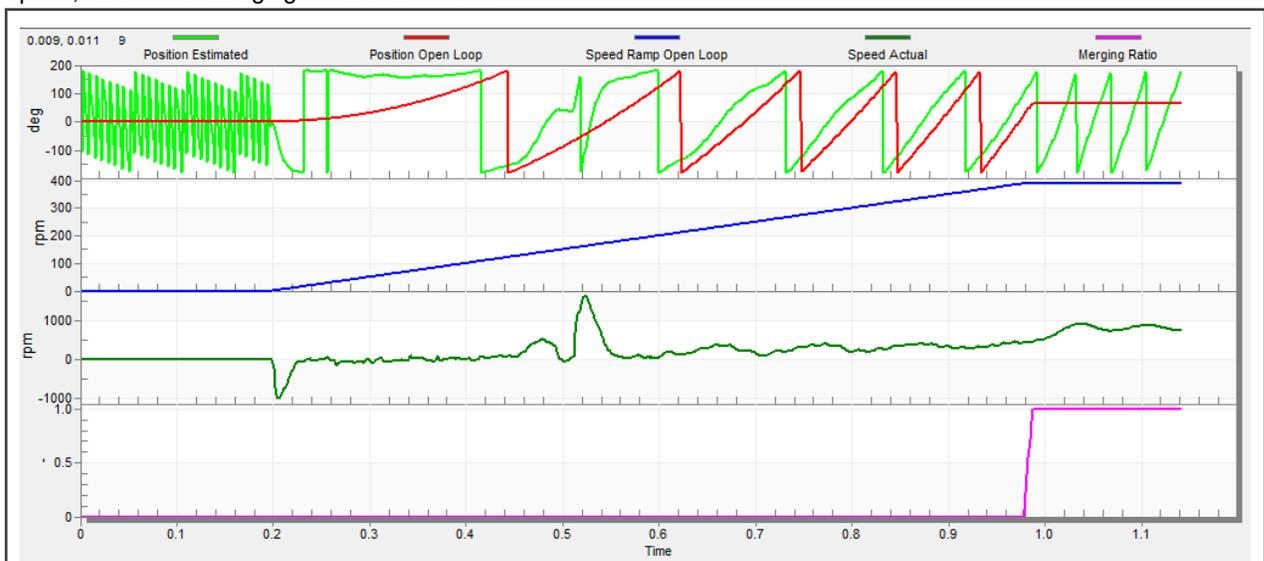

Figure 64. Motor startup
1. The start-up process can be tuned by a set of parameters located in the “Sensorless” tab. Two of them (ramp increment and current) are accessible in both tuning modes. The start-up tuning can be processed in all control modes besides the scalar control. Setting the optimal values results in a proper motor startup. An example start-up state of low-dynamic drives (fans, pumps) is shown in Figure 64.